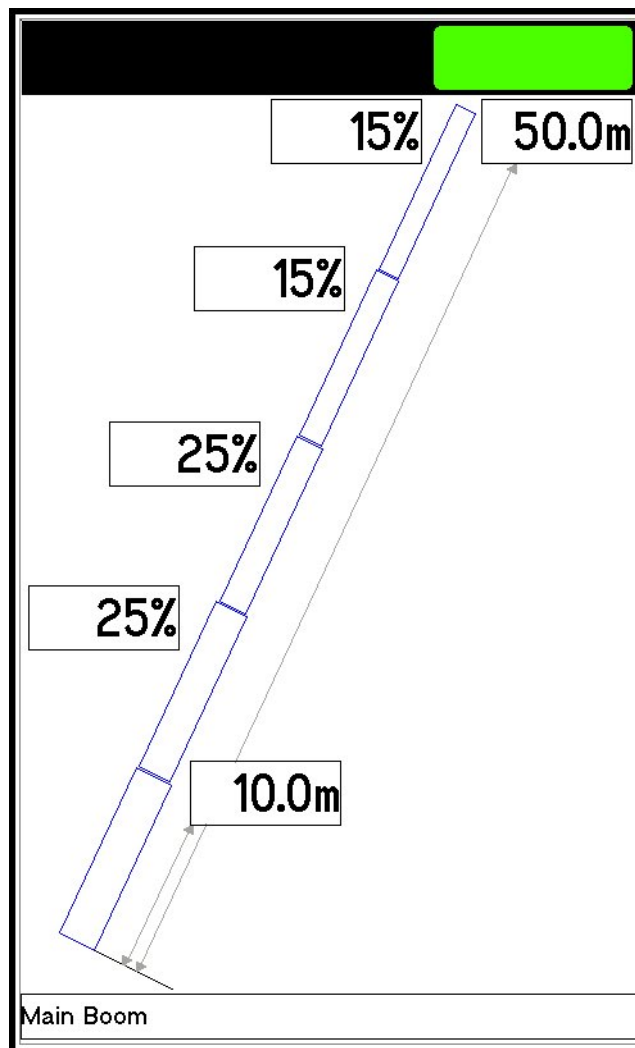

Figure 18
10. Boom Telescope Percentages – To view the current boom percentages and lengths press the working screen where the percentages are displayed. The boom telescope percentage screen will be displayed (Figure 18) with current lengths and percentages. To exit back to the normal working screen, press anywhere on the screen.